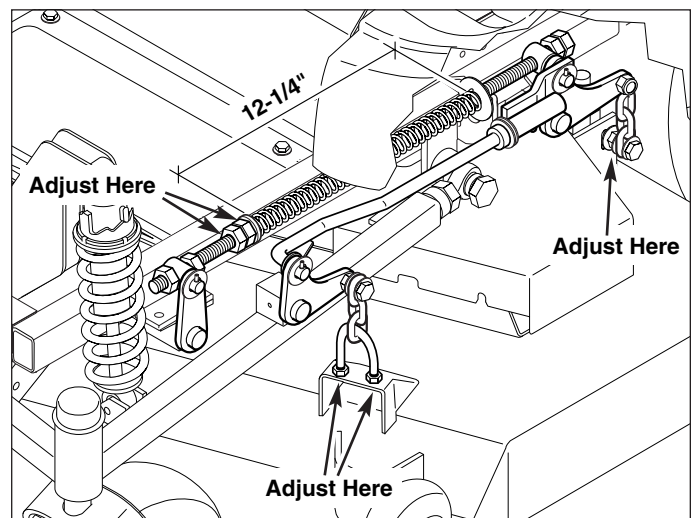

Figure 34. Deck Level & Spring Length Adjustment
7. Adjust the front U-bolts until the chains are tight and the deck is still resting on the 2 x 4's. Tighten jam nuts. See Figure 34.
8. Loosen the nuts and allow the rear of the deck to rest on the 2 x 4's and 1/4" spacers. Slide the chains down in the slots until the chains are tight and tighten the nuts. See Figure 34.
10. With the deck height adjustments complete and cutting height still set at 4", adjust the deck lift spring to a compressed length of 12-1/4" (measure spring only). Adjust the length of the deck lift spring by tightening or loosening the (2) 5/8" hex nuts that are closest to the spacer at the front end of the spring (see Figure 34). After adjustment is made, tighten these two nuts together. Perform this step to both springs.